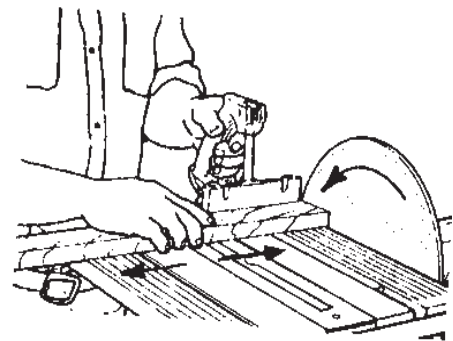

Figure C-18
2. If you're feeding the stock into the disc, place the stock against the miter gauge and feed it toward the disc until it contacts the abrasive. Hold it there for a few seconds, back it off, then feed it forward again. See Figure C-18.